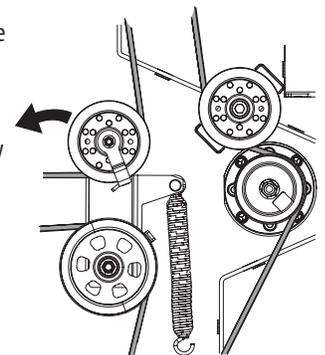

Figure 53
- Pull the right side of the PTO belt rearward and place the narrow V-side of the PTO belt into the PTO pulley. See Figure 53.